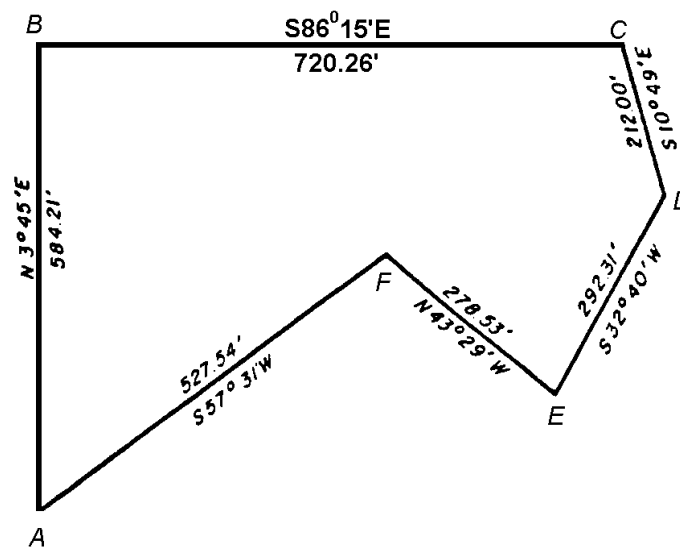

Figure 1
- \* c. With a Transit, and other necessary equipment, and figure 1, describe or perform the Survey of the Closed Traverse in Fig 1 from Magnetic North, starting at point A.